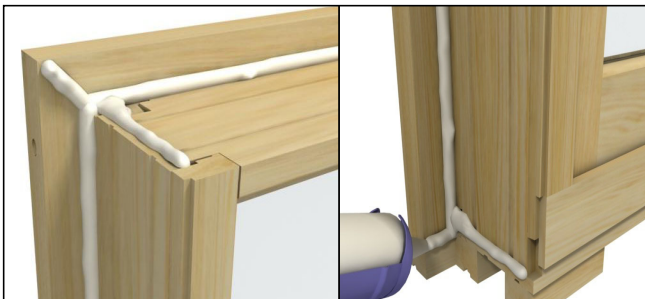

Figure 1
1. Apply bead of sealant between the casing ends and the sill horn as well as the mitered corners at the top of the casing. Tool sealant around Brick Mould Casing (BMC). See figure 1.